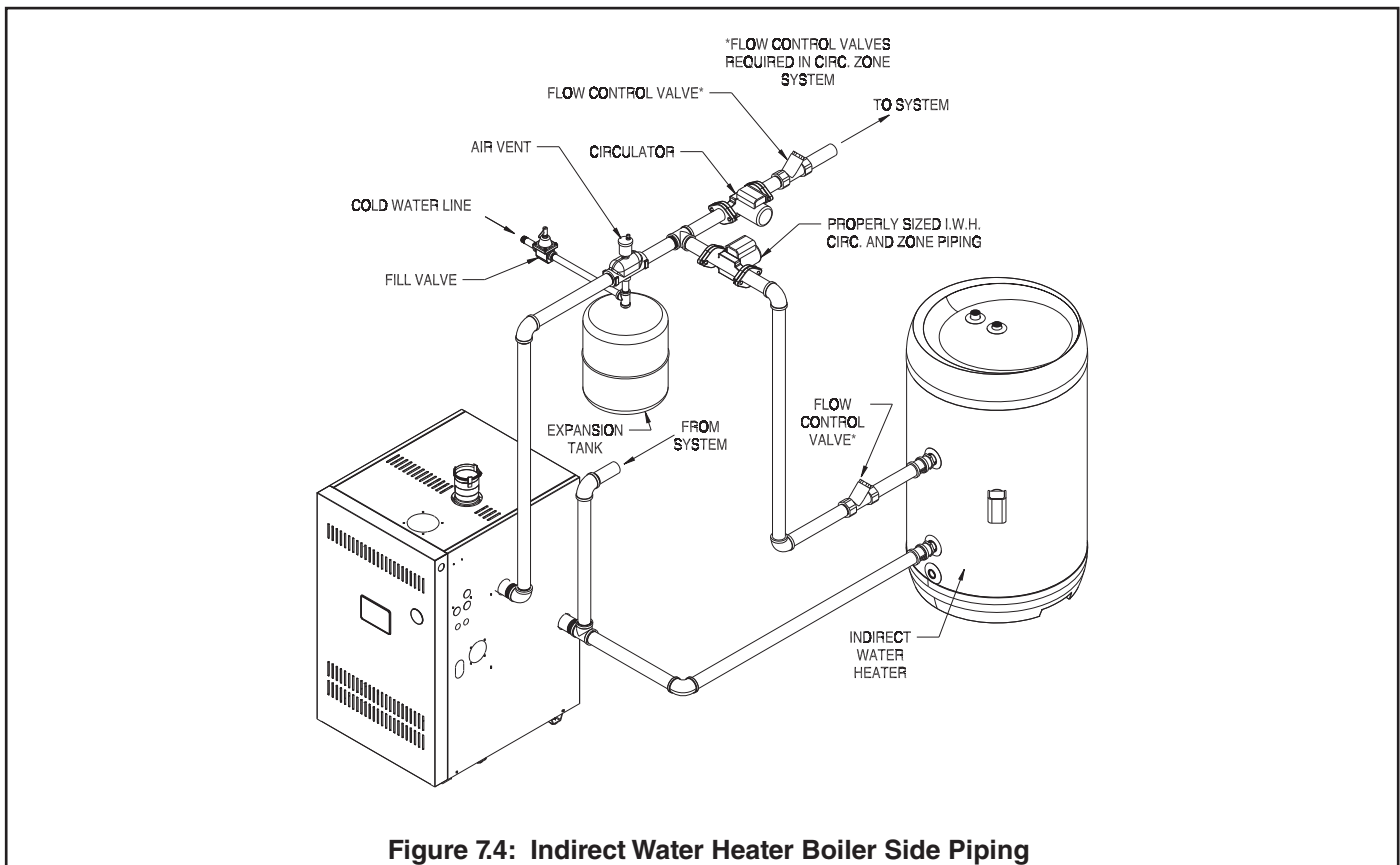

Figure 7.4: Indirect Water Heater Boiler Side Piping
2. Indirect Water Heaters - Figure 7.4 shows typical indirect water heater piping. Boiler piping is the same as for any two-zone system. Figure 7.4 shows circulator zoning, which is usually preferred for indirect water heaters. Size the circulator and indirect water heater piping to obtain the boiler water flow through the indirect water heater called for by the indirect water heater manufacturer.